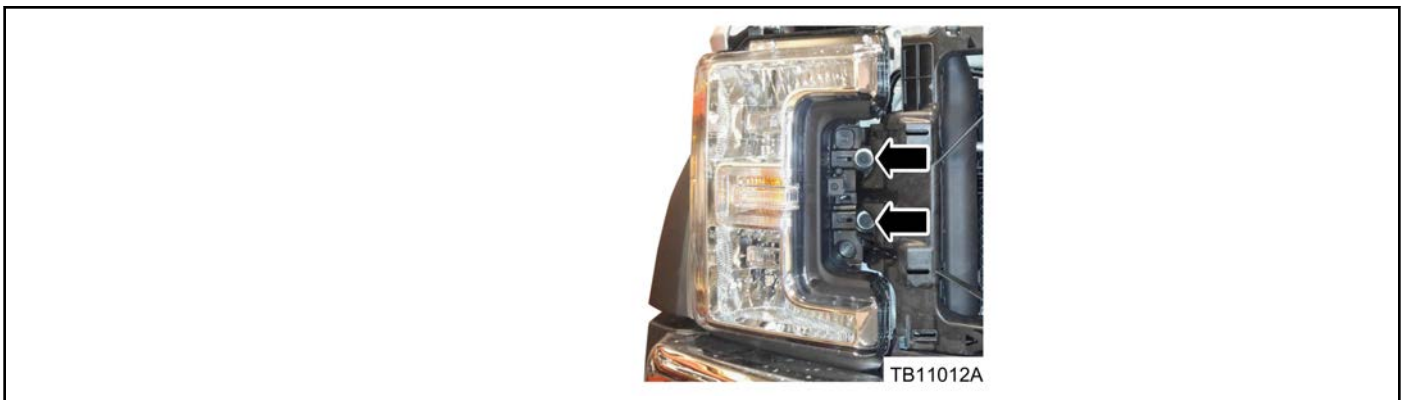

Figure 1 - Article 16-0164
4. Torque the four radiator grille reinforcement bolts located near the left and right headlamps to 40 Nm (30 lb-ft). (Figures 1)